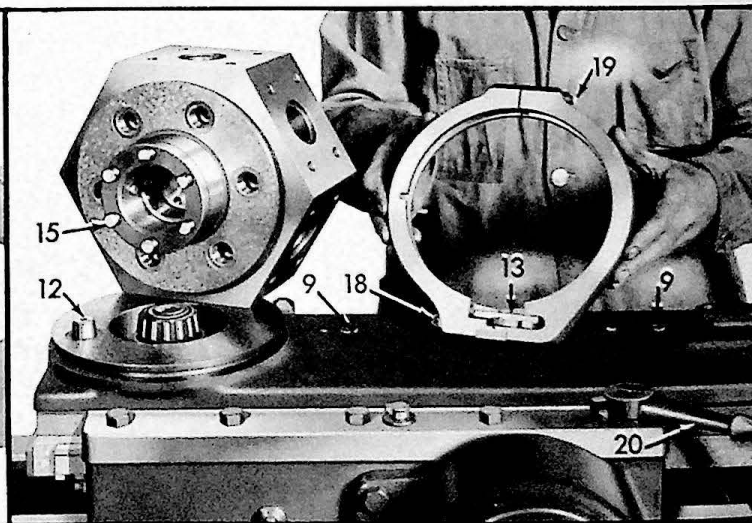

FIG. 39 Turret Seat and Circumference Binder Ring
The rack screws (9), Fig. 39, should at all times be kept well tightened. Two dowel pins take the feeding thrust load, relieving the screws of all side strain.
Move the turret slide to its rearmost position to free the binder ring. Then unscrew the two nuts and the front screw that holds the two halves of the binder ring together (18) and (19), Fig. 39. The ring can then be taken off and the turret lifted off its seat.
- In this position, clamp turret slide in its saddle with clamp handle (20), Fig. 39.